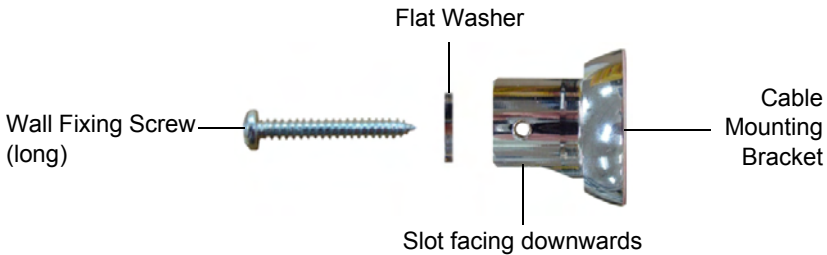

Figure 3: Cable Mounting Bracket Fixing (for visible supply cord)
When installing the Towel Rail with the Supply Cord visible, the Cable Mounting Bracket (item 2) must be fitted to the wall with the Flat Washer (item 6) fitted inside the Bracket and with the slot in the Bracket facing downwards to clear the supply cord (see Figure 3 below).
3. Attach the Cable Mounting Bracket to the wall, ensuring the slot is facing downwards. Fit the Flat Washer (supplied) inside the Bracket (see Figure 3 on page 6) and attach to the wall with either a Wall Fixing Screw (supplied) or a suitable wall fixing plug.